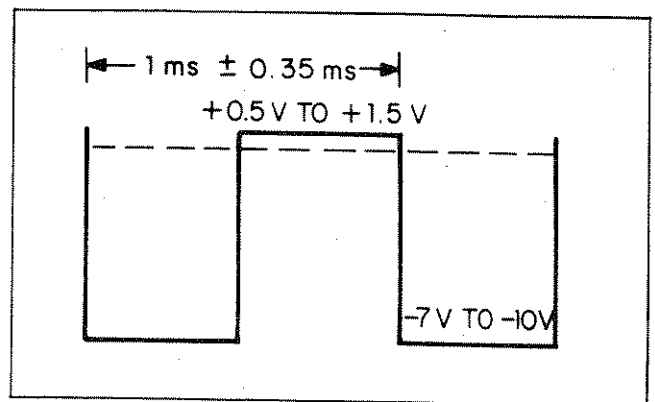

Figure V-7. OSCILLATOR OUTPUT SIGNALS
(1) 1 kHz Oscillator Checks
- (c) Monitor the signal at each end of R9621 (AC BAL) with the oscilloscope. The signal at one end should be 180° out of phase with that at the other end. Otherwise they should be the same. The waveform shape should be as indicated in Figure V-7.
(2) CHANNEL A ZERO (R9605)